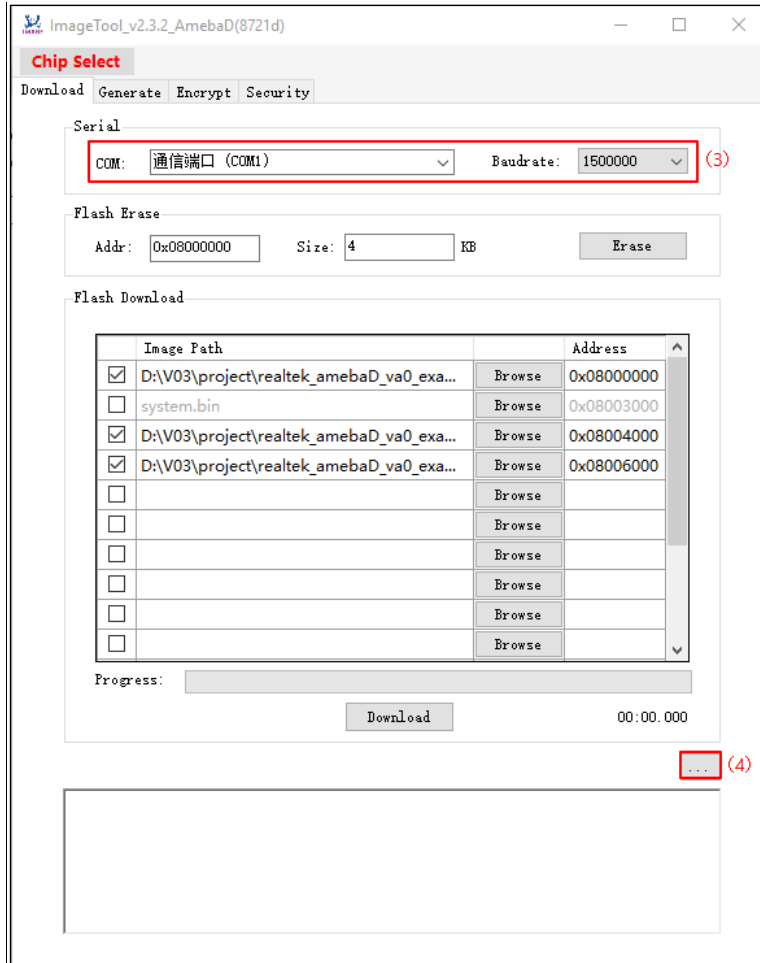
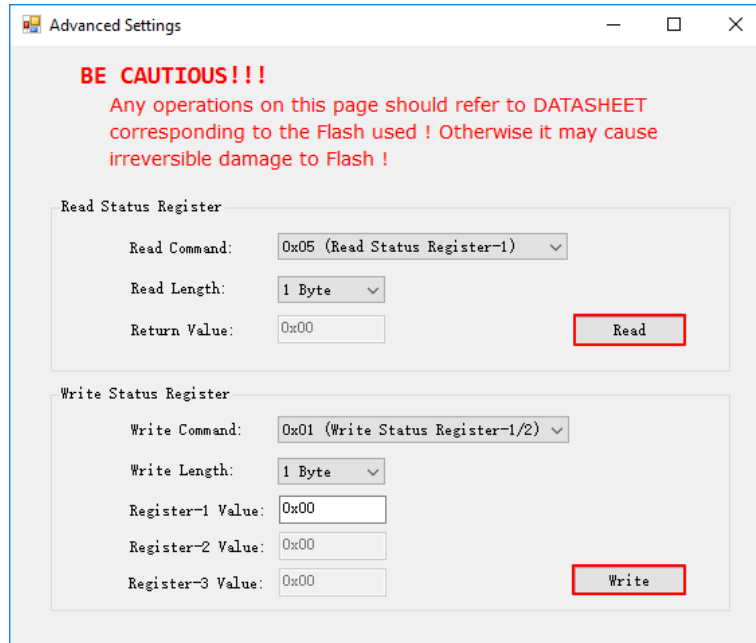

Fig 8-5 'Advanced Settings' window
Fig 8-6 Flash status operation
- (1) Check the Read/Write Status Register Command and Sequence according to the Flash datasheet. Notice that different Flash IC would have different sequence.
- (2) Get Ameba into UART\_DOWNLOAD mode as introduced in section 8.3.1.
- (3) Select the corresponding serial port and baud rate.
- (4) Click **Advanced Settings** button in Fig 8-5, and the **Advanced Settings** window shown in Fig 8-6 popups.